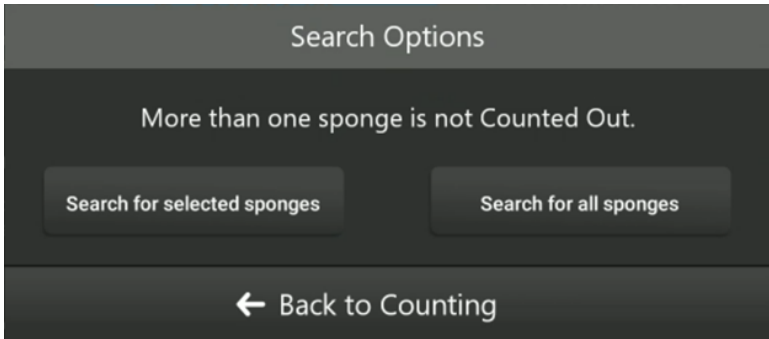

Figure 22 – Search Options
2. Tap **Search for selected sponges** to search for specific sponge(s) or tap **Search for all sponges** to search for all sponges (Figure 22).